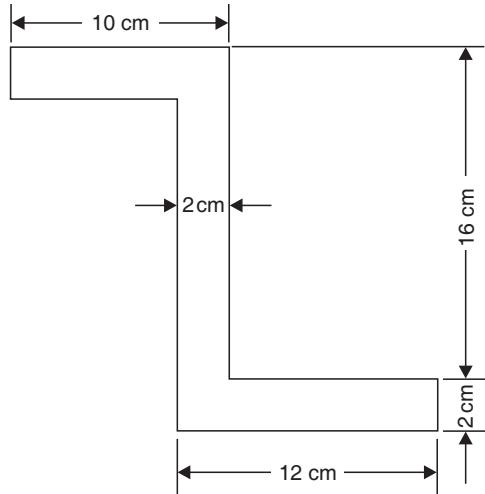

Fig. 7.24
**Example 7.5.** Determine the centroid of the lamina shown in Fig. 7.24.